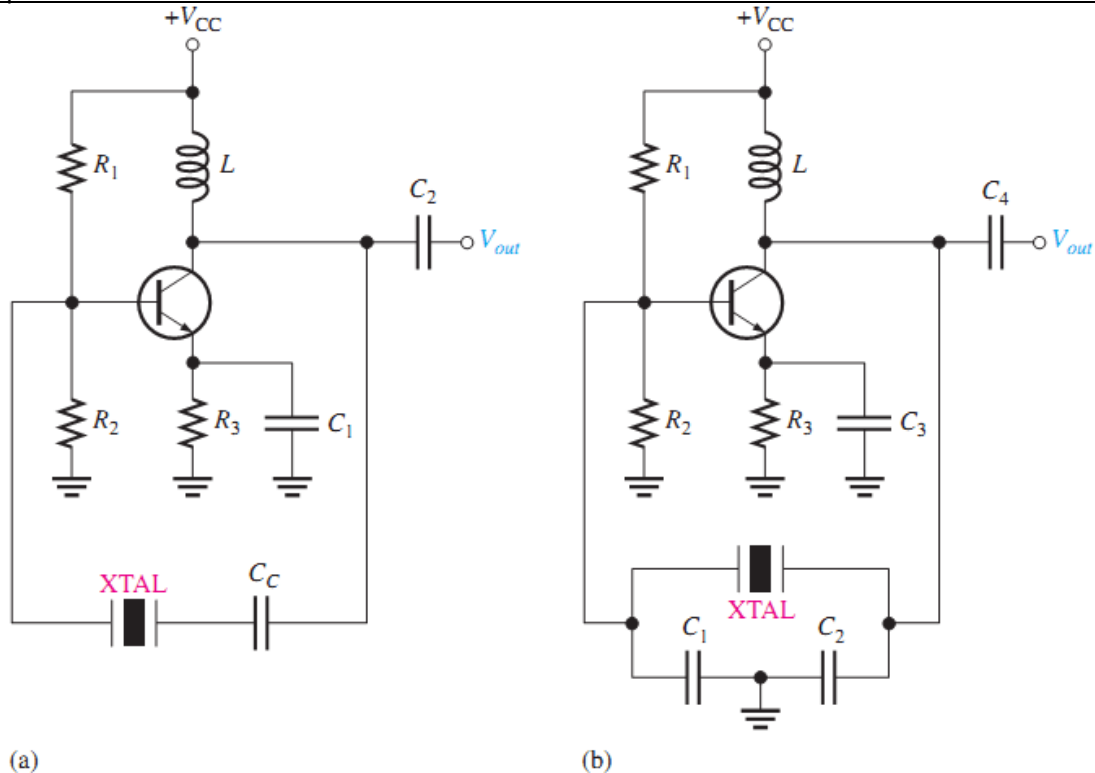

Figure 23 Basic crystal oscillators.
- An oscillator that uses a crystal as a series resonant tank circuit is shown in Figure 23(a).
- A modified Colpitts configuration is shown in Figure 23(b) with a crystal acting as a parallel resonant tank circuit.